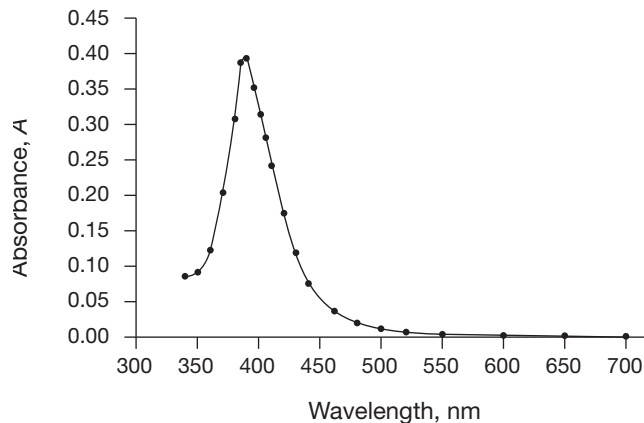

Figure 9. Visible spectrum of nickel nitrate.
Figure 9 shows a typical visible spectrum. The wavelength range for visible spectroscopy is 350–700 nm. In general, *absorbance* is proportional to concentration for each wavelength. The higher the concentration of a substance in solution, the more intense its color will be, and the greater its absorbance. The linear relationship between absorbance (A) and concentration (c) is expressed in Beer's law, Equation 3, where b is the path length, in cm, of solution the light passes through, and a is a proportionality constant. If c is given in units of molarity ($M = \text{moles/L}$), then a is known as the molar absorptivity coefficient, with units $M^{-1} \text{ cm}^{-1}$,